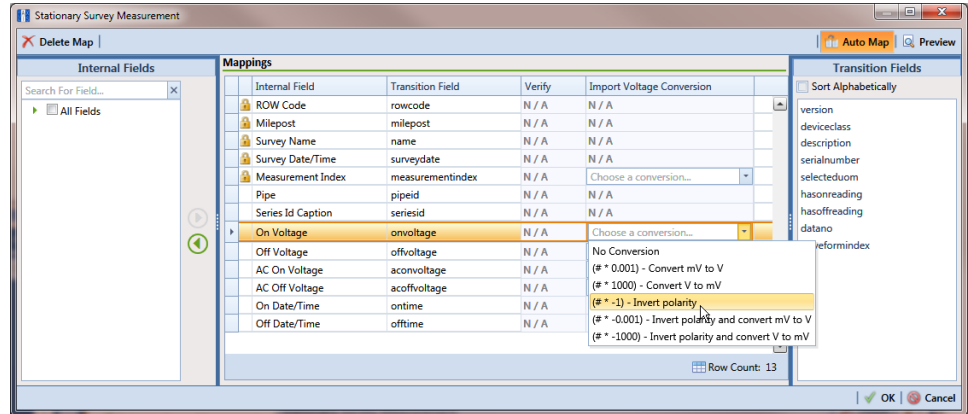

Figure 10-22. Stationary Survey Measurement
- b Select a survey measurement field in the grid. Then click the down arrow in the **Import Voltage Conversion** field and select one of the following filter options in the selection list (Figure 10-22, page 511).